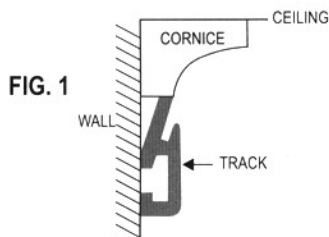

FIG. 1
- Hold the length of track in position against the wall under the cornice or, if there is no cornice, under the ceiling. Ensure the track is the correct way up (see Fig.1).
- Hold the length of track in position against the wall under the cornice or, if there is no cornice, under the ceiling. Ensure the track is the correct way up (See Fig.1).